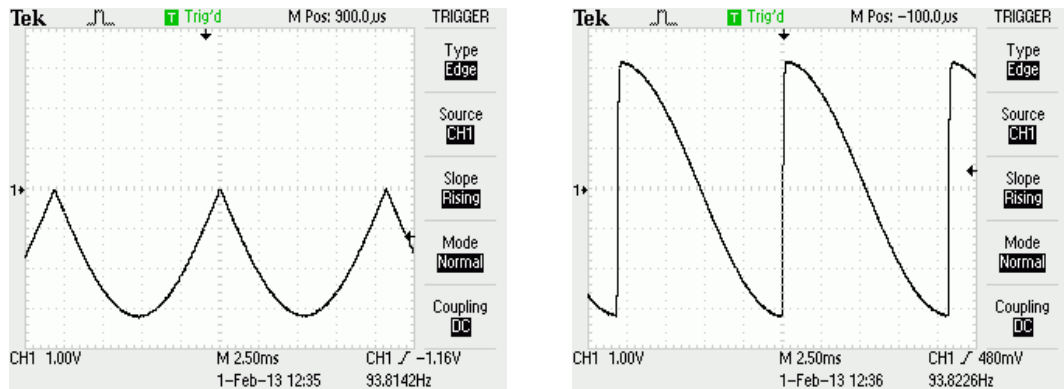

Figure 1.2: Mixer waveform at 180° (left) and 270° phase shifts (right).
6. Turn the **Quadrant** knob one click clockwise. The signal is now at 180° relative to the reference signal, as shown in Figure 1.2.
7. Turn the **Quadrant** knob one click clockwise. The signal is now 270° out of phase with the reference signal, as shown in Figure 1.2.